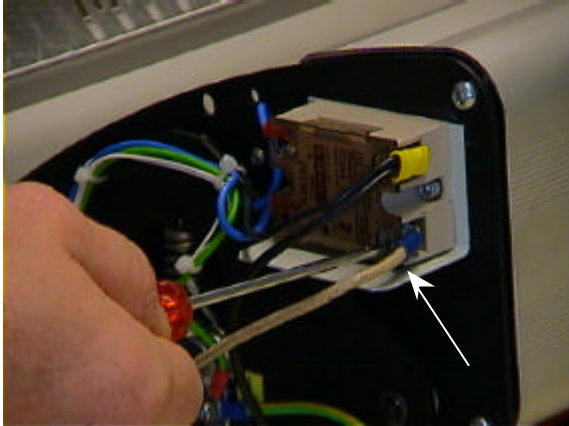

fig. 17
4. Loosen the screw, which attaches the heater wire to the Solid State Relay. See figure 17.